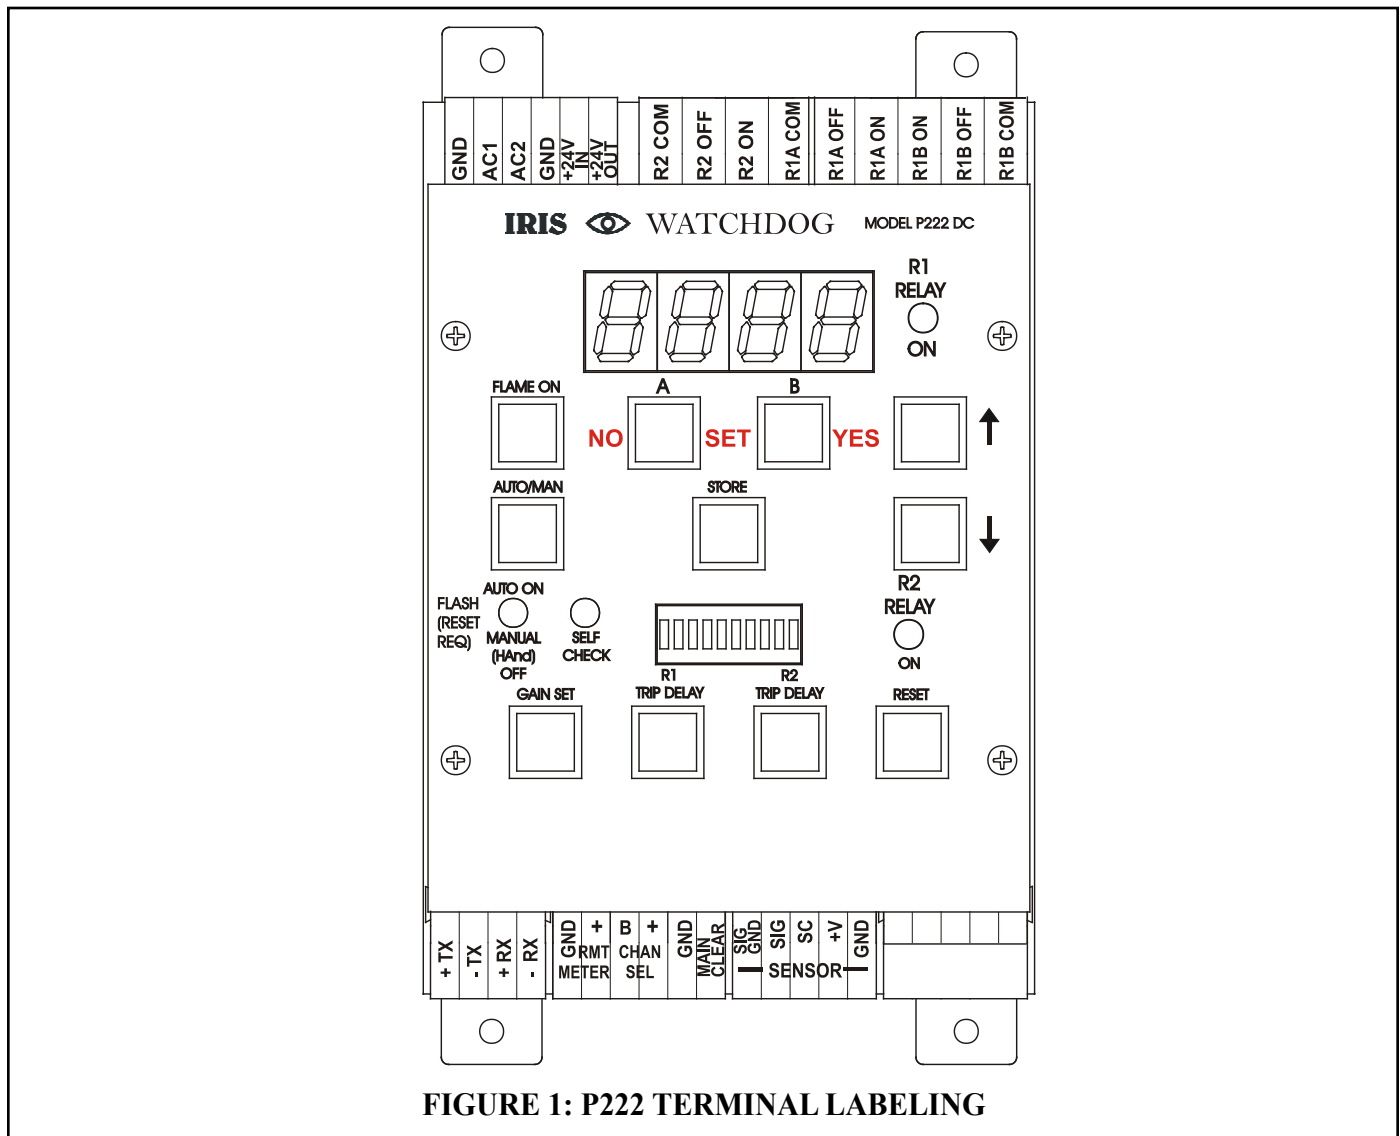

FIGURE 1: P222 TERMINAL LABELING
Refer to Figure 1 on the following page, and proceed to wire the signal processor as follows:
9. Proceed to wire the connector as follows: (Refer to the wiring diagram figure 1 for terminal locations.)
The cable at the signal processor end should be prepared in a similar way to the plug end, particularly the shield from the WHT wire. Follow the wiring connections as shown in the wiring diagram figure 1, making sure that the shield does not touch the other adjacent terminals.